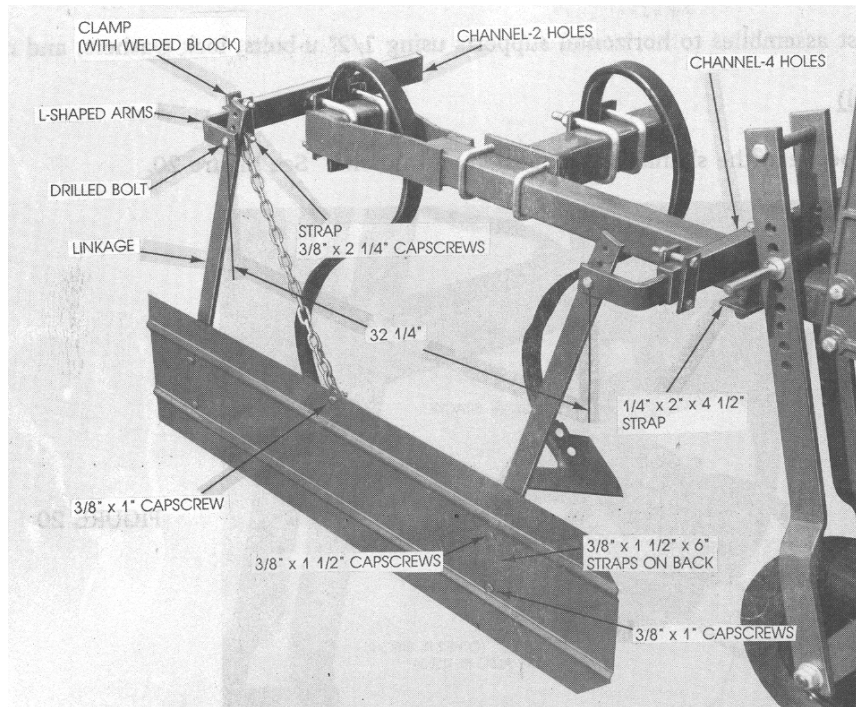

FIGURE 21
1. Install 2 hole channel against nuts already on u-bolts. Secure with lock nuts. See Figure 21.